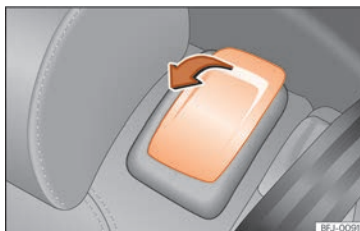

Fig. 108 Second row of seats:: access aid controls.
- Remove any objects located in the footwell of the second row of seats » ❶.
- Pull the release lever » Fig. 108 in the direction of the arrow.
- Pull the lever » Fig. 108 and push the backrest backwards until it is in a vertical position. The entire seat folds down » ⚠.